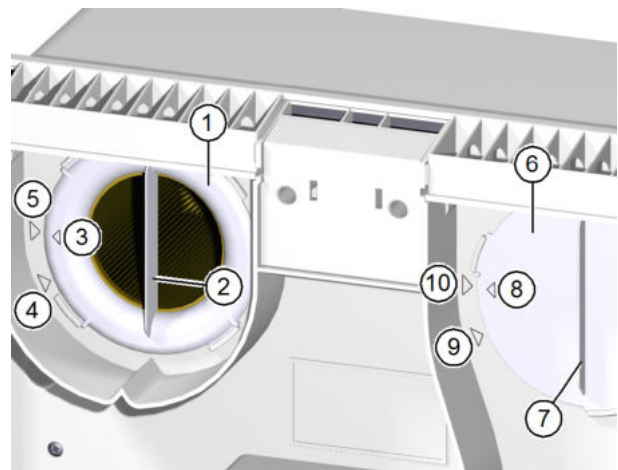

Fig. 18: Remove filter
- ▶ Turn the filter ring (item 1 in Fig. 18) using the hand grip (item 2 in Fig. 18) anti-clockwise until the arrow on the filter ring (item 3 in Fig. 18) lines up with the arrow at the removal position (item 4 in Fig. 18).
- ▶ Turn the filter cover (item 6 in Fig. 18) using the hand grip (item 7 in Fig. 18) anti-clockwise until the arrow (item 8 in Fig. 18) on the filter cover lines up with the arrow at the removal position (item 9 in Fig. 18).
Fig. 18 on page 38) lines up with the arrow for the removal position (item 4 in Fig. 18 on page 38).
- ▶ Turn the filter ring clockwise until the arrow on the filter ring (item 3 in Fig. 18 on page 38) lines up with the arrow for the locking position (item 5 in Fig. 18 on page 38).
- ▶ Check the position of the filter ring and filter cover. The hand grips must be vertical and the arrows on the filter ring and filter cover must line up with the arrows for the locking position (see Fig. 18 on page 38).